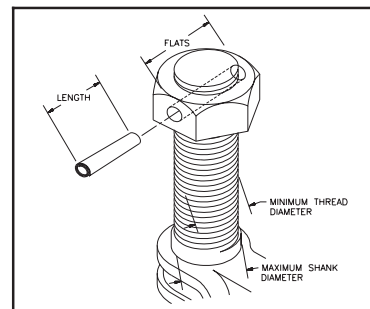

Figure 6
- See WARNING box and Figure 6 for special instructions for securing the nut to the shank at assembly.
- The minimum thread length engaged in the nut should not be less than one (1) thread diameter.
- All nuts must be secured to the shank by cross drilling the nut and threaded shank and inserting the appropriate coil type spring pin. (See WARNING box and Figure 6 for special instructions)
- Coil type spring pin must be as long as the distance across the nut flats or diameter (See Figure 6).
- Crosby cannot assume responsibility for, (A) the quality of machining, (B) the type of application, or (C) the means of attachment to the power source or load.